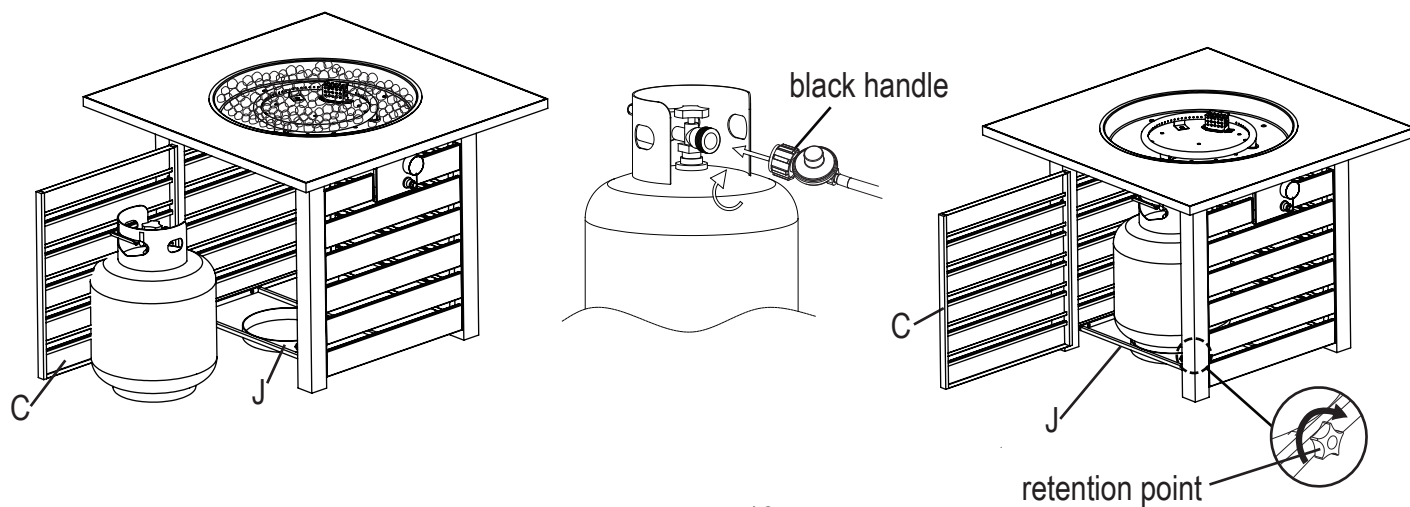

Figure 10
10. Open the door panel (C). Place the gas cylinder into the gas cylinder support (J) and connect the regulator by turning the black handle clockwise to tighten. To remove the regulator, turn the black handle counter-clockwise. Secure the gas cylinder by tightening clockwise the retention point found on gas cylinder support (J), (see Figure 10), so that the gas cylinder cannot move from side to side or fall down. The knob on the control panel is turned all the way to the “OFF” position when the fire pit is NOT in use.